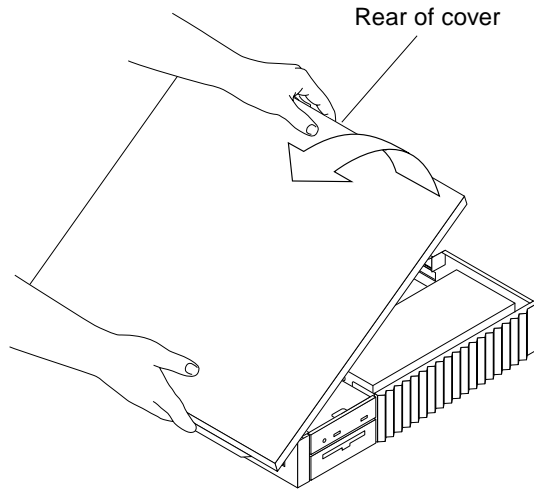

FIGURE 7-2 Removing the Cover
5. Put the cover aside (FIGURE 7-2).